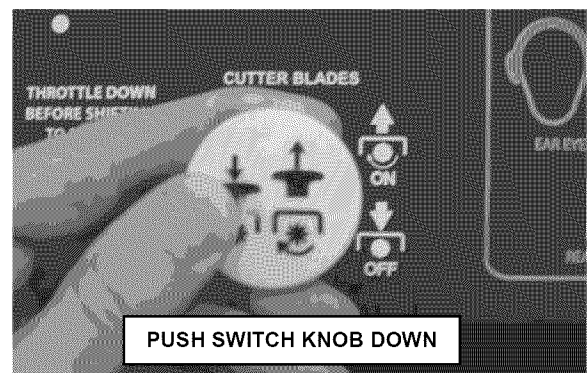

FIGURE 3.12
4. Push Blade Clutch Switch down to the 'OFF' position. See Figure 3.12.